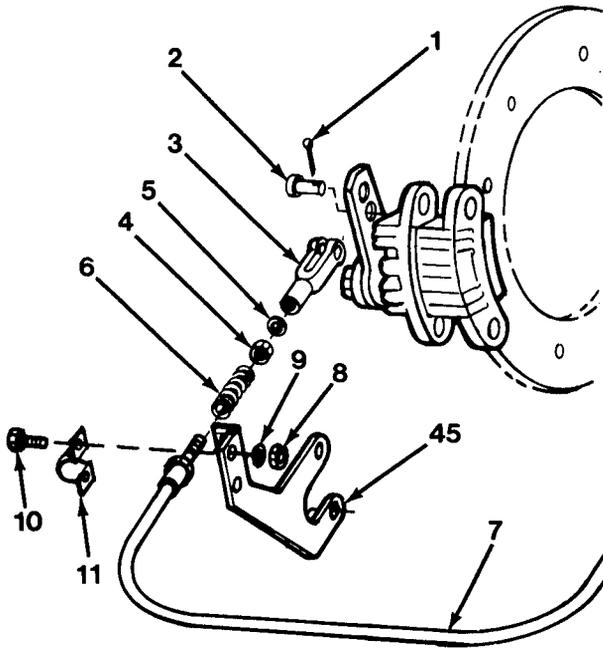

Figure 17-1
1. Remove cotter pin (1) and pin (2, Figure 17-1).
2. Remove yoke (3), nut (4), washer (5) and spring (6) from end of cable (7).
3. Remove two nuts (8), lockwashers (9), cap-screws (10) and clamp (11) from cable (7).
4. Remove cable (7) from bracket (45).